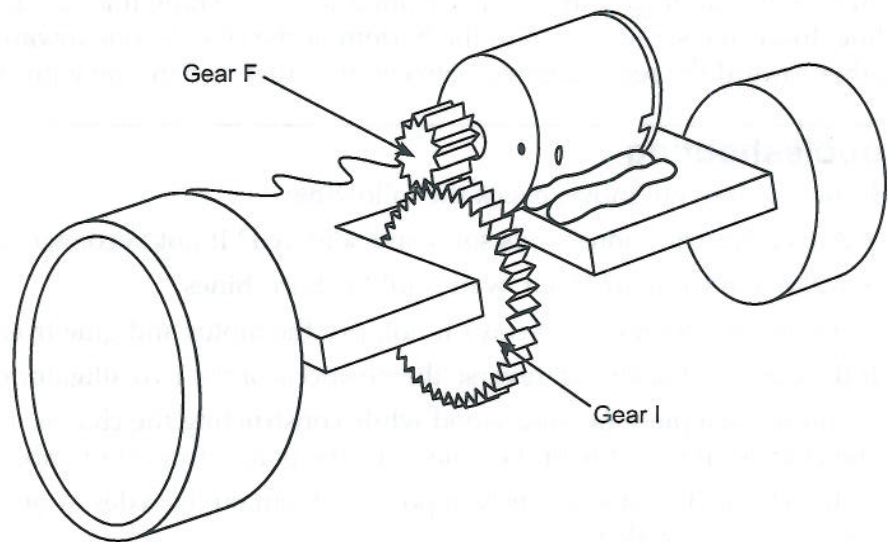

Figure 5 – In this illustration, Gear F engages Gear I.
5. Using a cool-melt glue gun, create a 1/2" x 1" rectangle of glue about 1/8" deep as illustrated in Figure 5.
6. While the glue is still liquid, place the motor on its side (with vent holes up) on the glue so **Gear F** sits directly on top of and engages with **Gear I** (Figure 5). Be sure not to obstruct or fill the vent holes with glue.
8. Apply another bead of cool-melt glue behind and in front of the motor (Figure 5). This will keep the motor in place if the vehicle comes to a sudden stop (crashes).